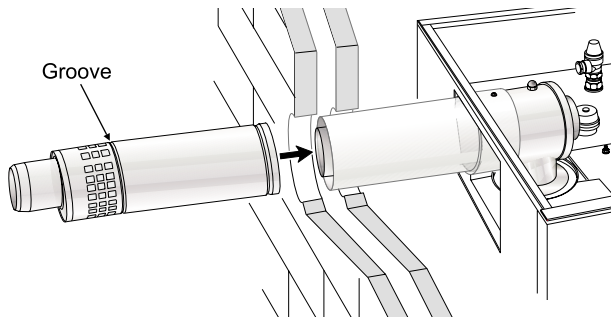

Fig. 5
1. From outside the building - fit terminal section through the hole in the wall. Engage onto boiler connector section (Fig. 5).